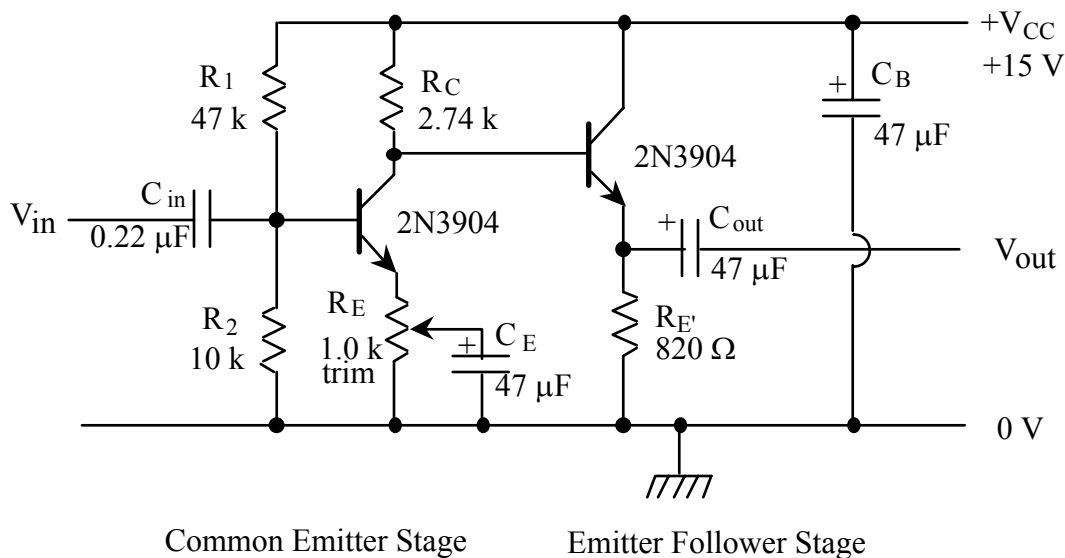

Figure 7.5 Complete Two-stage Amplifier Circuit
in Figure 7.5, the emitter-follower base is connected to the collector of a common emitter stage, and so R is the output impedance of that stage, which is equal to R_C .
5. Calculate the output impedance for the emitter follower circuit shown in Figure 7.5. What fraction of the original output amplitude do you expect to obtain when you attach the 560Ω load to the emitter follower output?
Assemble the emitter follower circuit shown in Figure 7.5. Do not connect the $560\ \Omega$ load to the output yet.